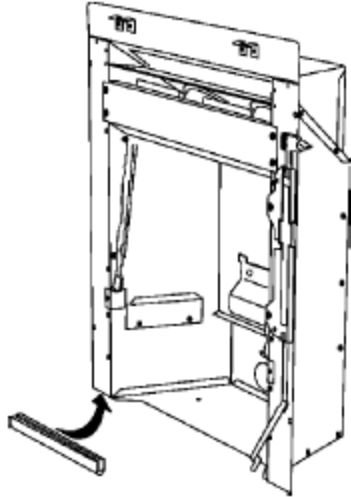

Figure 13. 'U' Seals
5. Fit the two "U" section seals to the bottom edges of the convection box side flanges (See figure 13).